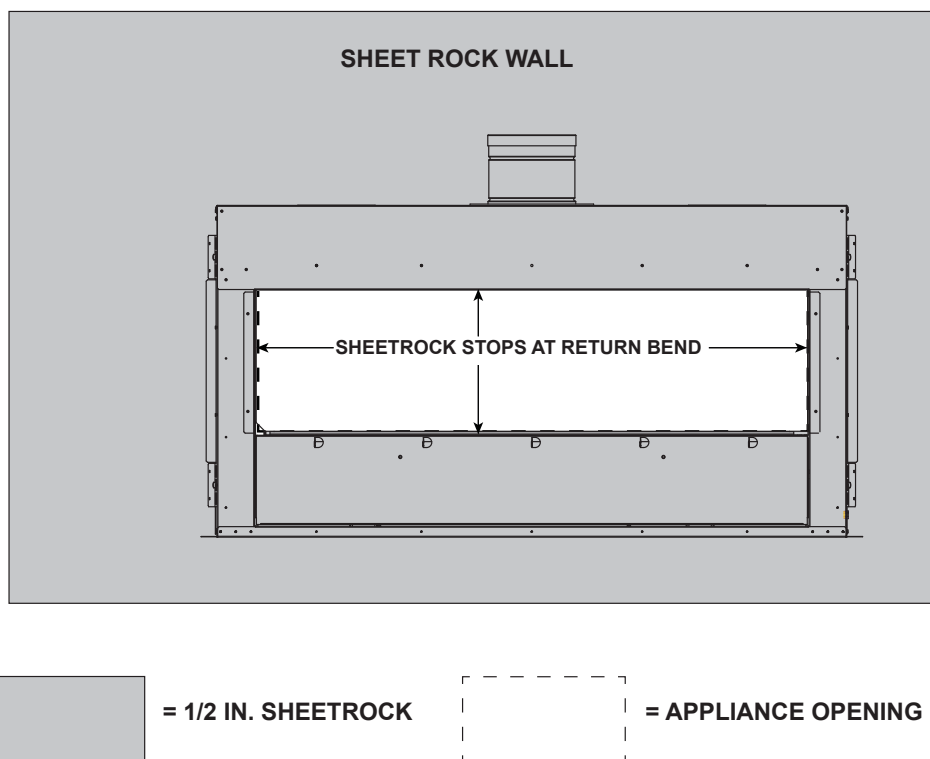
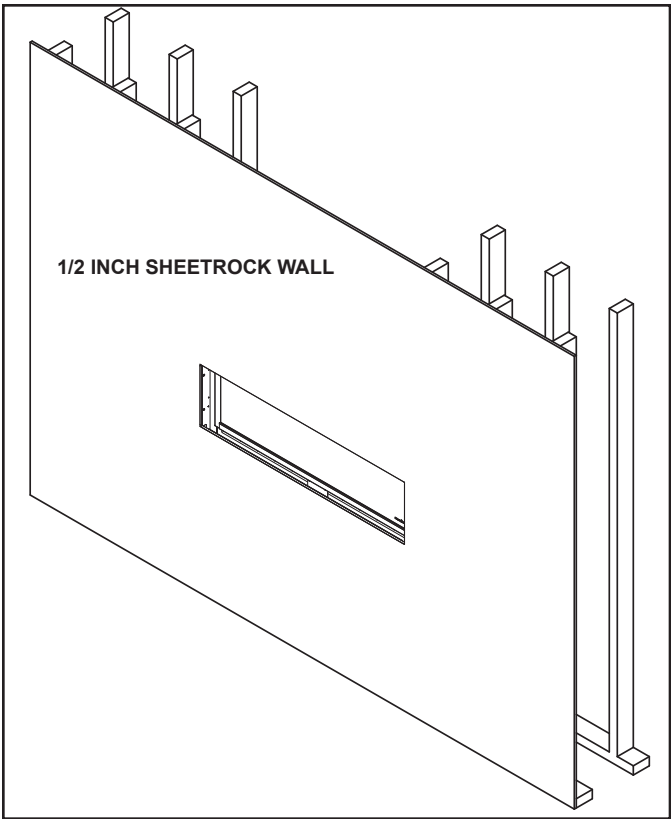

Figure 10.2 Sheetrock Detail for Both Finishing Methods
Figure 10.3
- Facing and/or finishing materials must never overhang into the glass opening. See Figure 10.2.
- 1. Install 1/2 inch sheetrock on wall. Figure 10.3 shows the PRIMO installed. Sheetrock (1/2 inch) has been installed up to the top, bottom and sides of appliance opening as shown in Figure 10.2 and 10.3. See Section 10.A for more details regarding facing material.